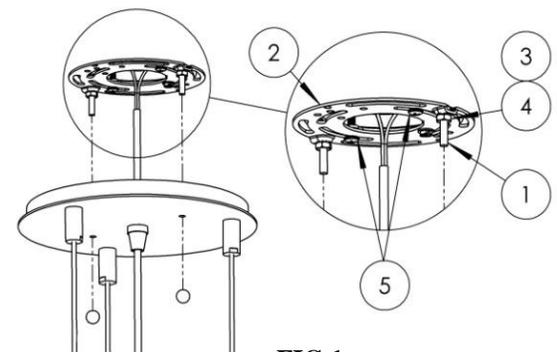

FIG 1
1. Preparing for Installation (Fig 1)
- Install the short screws (1) with lock washers (3) and hex nuts (4) (all provided) into the offset holes of the round mounting bracket (2) as shown in Fig 1 & 2. Be sure the two screws (1) line up with holes in canopy (6) and point away from junction box (not provided).
- Note: The short screws may require adjustment to secure the two ball nuts (7) at the proper location.**
- Install and secure the round mounting bracket assembly to the junction box in ceiling with the longer screws (5) provided, (Fig. 1).